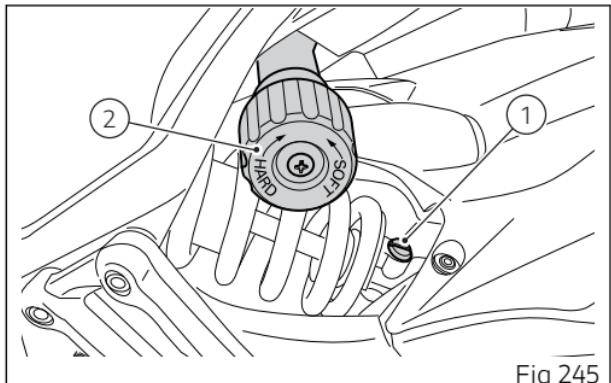

Fig 245
The adjuster (1, Fig 245), located on the lower mount which fastens the shock absorber to the swinging arm, adjusts the damping during the rebound phase (return).
The knob (2, Fig 245) located on the left side of the motorcycle, adjusts the preload of the shock absorber external spring.
It is possible to work on adjuster (3) through the opening on the battery support. Turn adjusters (1, Fig 245) and (3) or knob(2, Fig 245) clockwise or counter-clockwise respectively to stiffen or soften the damping or the preload.
- loosen adjuster (1, Fig 245) by 9 clicks;
- 18 turns of knob (2, Fig 245) from fully open (4 mm (0.16 in) preload);